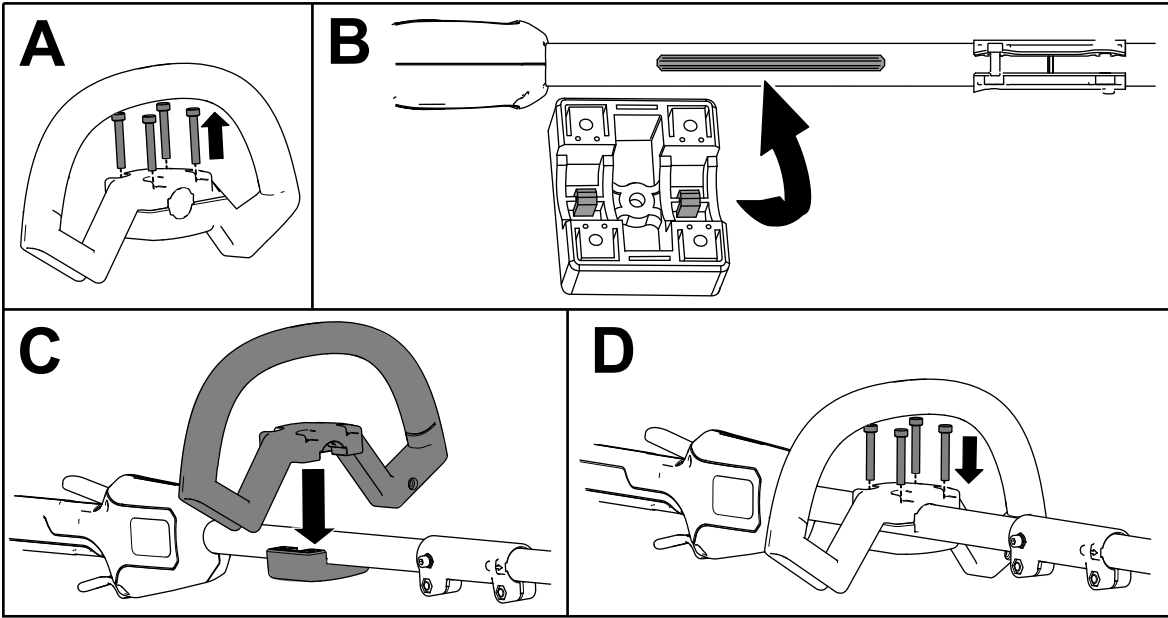

Figure 2
1. Separate the auxiliary handle from the handle plate by removing the 4 socket head screws using the provided Allen wrench (A of Figure 2).
2. Line up the guides on the auxiliary handle plate to the guide on the bottom of the trimmer shaft (B of Figure 2).
3. Line up the auxiliary handle with auxiliary handle plate on the trimmer shaft (C of Figure 2).
4. Secure the auxiliary handle to the handle plate with the 4 socket head screws previously removed (D of Figure 2).
3. Secure the guard onto the base of the trimmer with the 2 socket head screws, 2 washers, and 2 spacers previously removed (C of Figure 2).